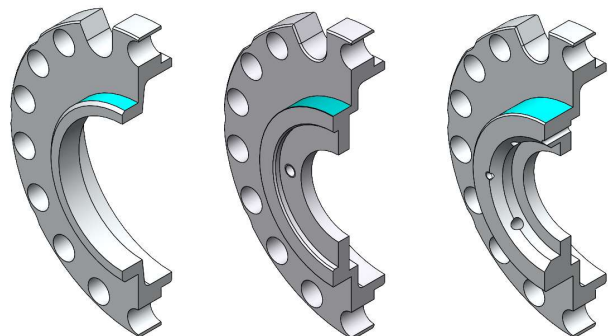

Figure 14: Left to right: Stator spacer, encoder bracket, resolver bracket
- b) a structurally equivalent or better custom mounting bracket through the back flange of the motor utilizing a stator-spacer or positioning sensor bracket supplied with the motor (*Figure 14*). Centering surfaces are highlighted in blue.